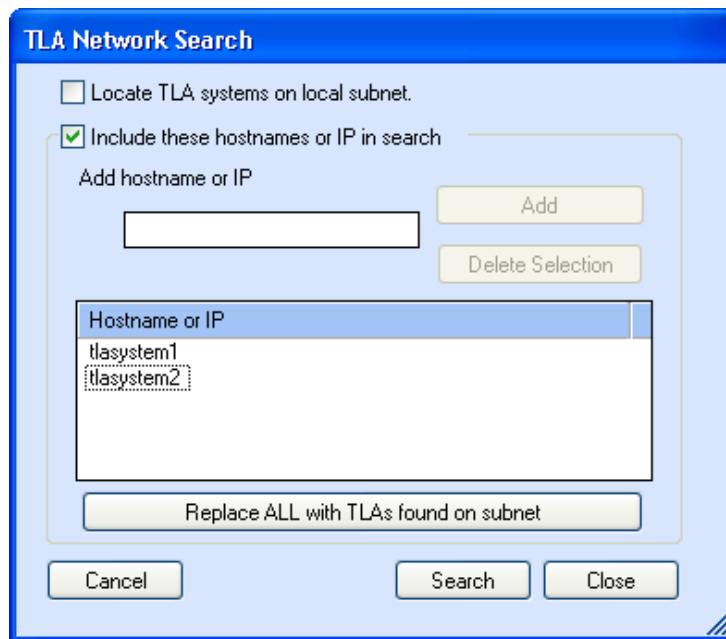

Figure 32: TLA Network Search dialog box
1. From the TLA Connection Dialog box, click  (Search icon) to open the TLA Search dialog box. (See Figure 32.)